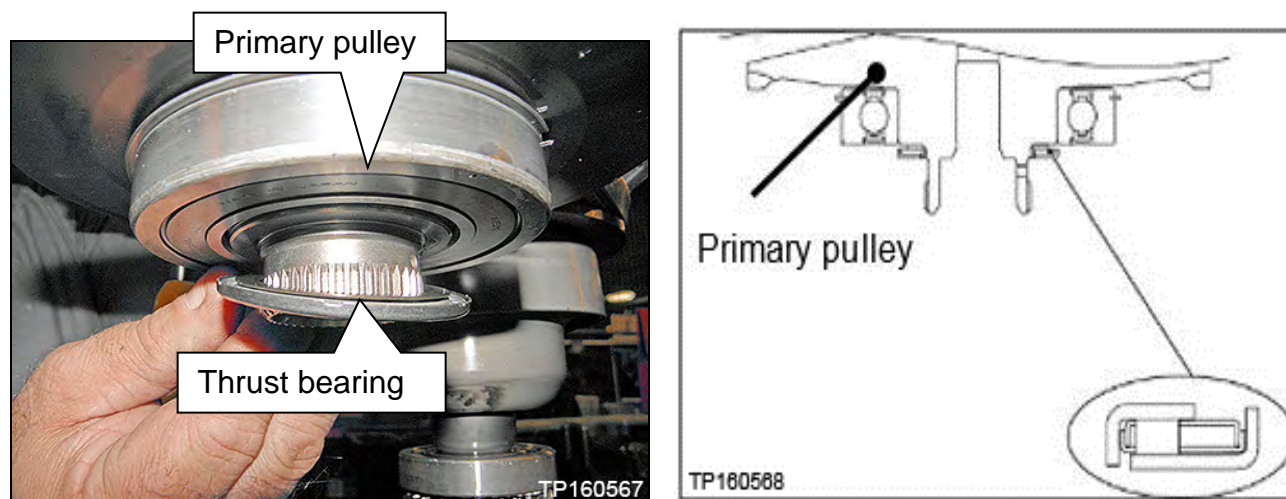

Figure 19E
19. Install the original thrust bearing onto the primary pulley of the new sub-assembly (Figure 19E).
CAUTION: The thrust bearing has two different sides. Reference Figure 19E for correct bearing orientation.